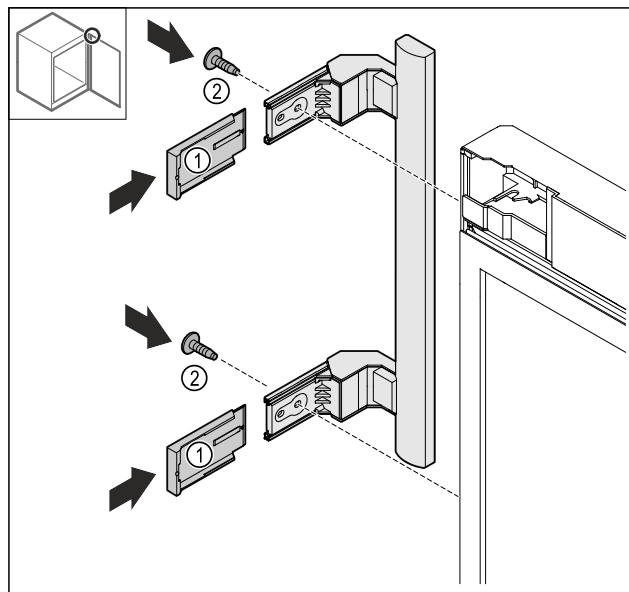

Fig. 22
- Push the covers Fig. 22 (1) on.